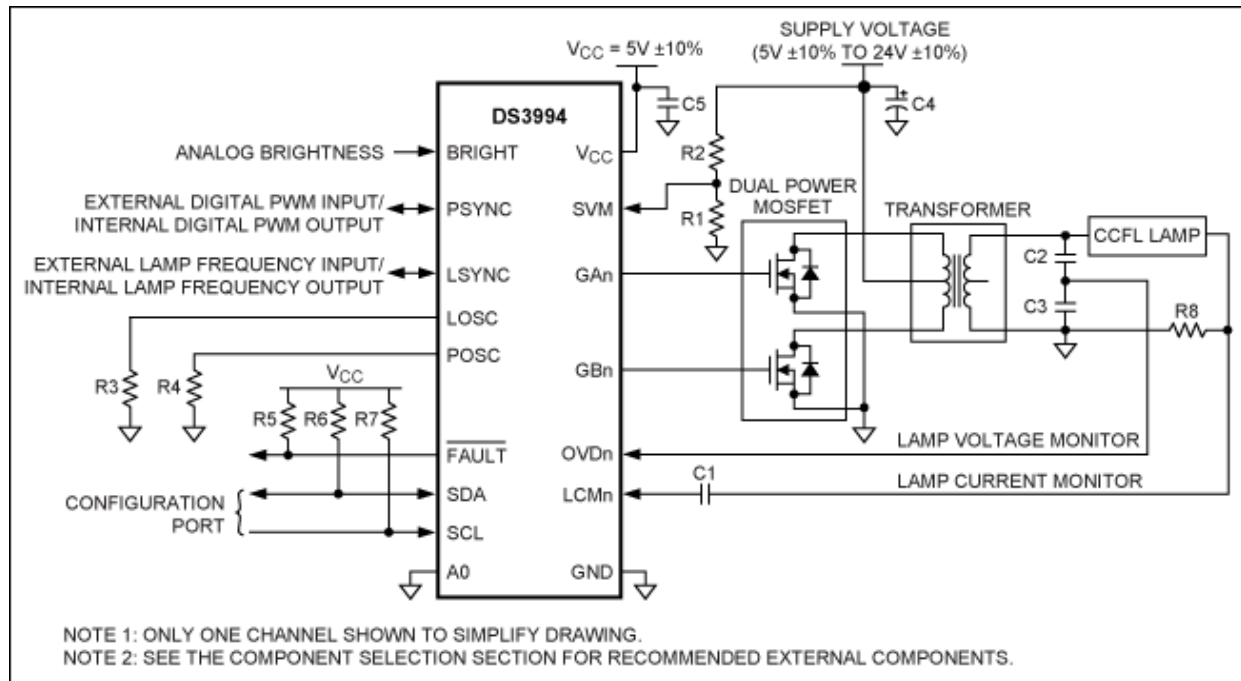

Figure 1. Typical operating circuit with a single lamp per channel.
In this application the internal DC bias voltage at the LCM and OVD pins allows for an AC-coupled input. This design can make the external circuitry very simple. A typical operating circuit for this application is shown in **Figure 1**.
**Table 2. DS3994 LCM and OVD Thresholds (for Figure 1)**